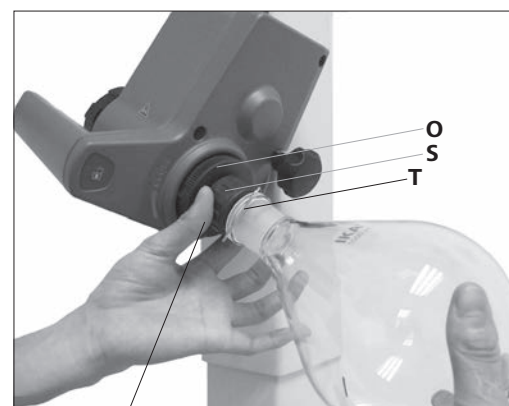

Fig.15b
- Turn the plastic nut (S) with the clip (T) counterclockwise until the clip can be put on the flange. (Fig. 15b)
- Now turn the plastic nut clockwise until the clamp is hard up against the flange. When doing so, hold the locking device (O) on the steam pipe.